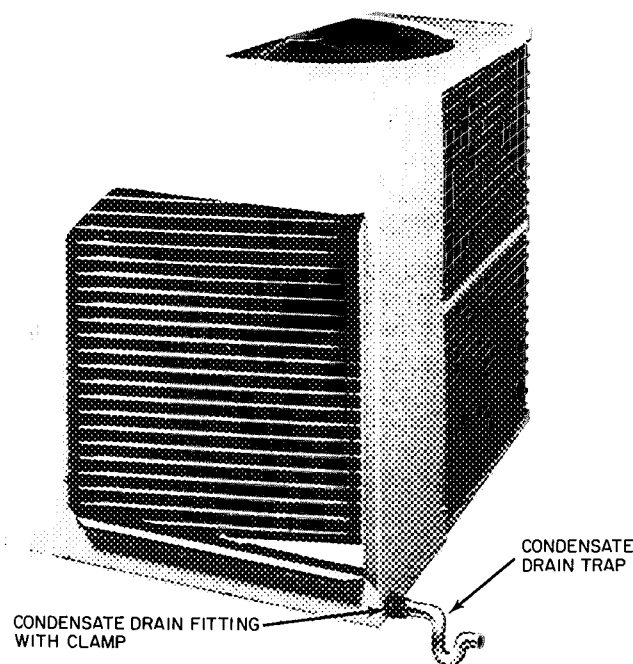

Fig. 4 – Condensate Drain Connection
Step 6 – Connect a Drain Line to rubber condensate drain fitting on side of unit (see Fig. 1). Use clamp provided. Install factory-supplied condensate trap (taped to indoor fan housing for shipment) at end of drain line. If a drain line is not used, connect condensate trap to unit drain fitting as shown in Fig. 4.